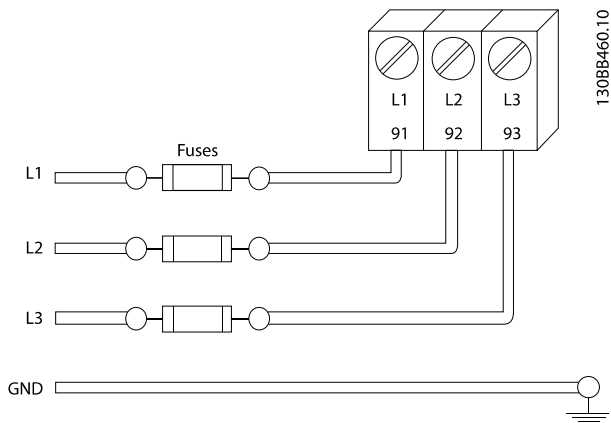

Figure 2.4 Frequency Converter Fuses
fusing is required to provide this protection, see Figure 2.4. If not factory supplied, fuses must be provided by the installer as part of installation. See maximum fuse ratings in 10.3.1 Protection.
- All frequency converters must be provided with short-circuit and over-current protection. Input fusing is required to provide this protection, see *Figure 2.4*. If not factory supplied, fuses must be provided by the installer as part of installation. See maximum fuse ratings in *10.3.1 Protection*.